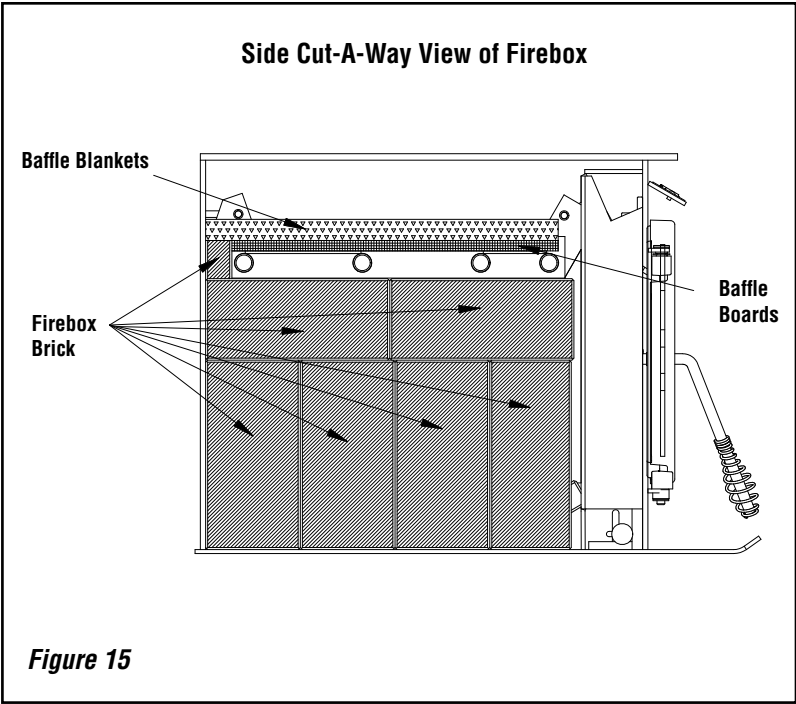

Figure 15
2. Next, you will install the baffle boards. All 4 baffle boards included are the same size (15-1/2" X 6-3/16"). You will start by installing the boards in the center part of the unit on top of the secondary tubes to each side of the baffle support with the 15-1/2" side of the baffle board going from the front to back of the unit. Once you have the first two boards installed slide the board to the left side of the baffle support all the way to the left and rear of the unit. You will slide the board to the right side of the secondary support to the right and rear of the unit. Next you will install the two remaining boards where you originally installed the first two boards on each side of the baffle support and pushed against the rear of the unit. The stainless steel support hanger should be centered left to right between the sets of baffle boards and placed as shown in **Figure 15 on Page 16**.